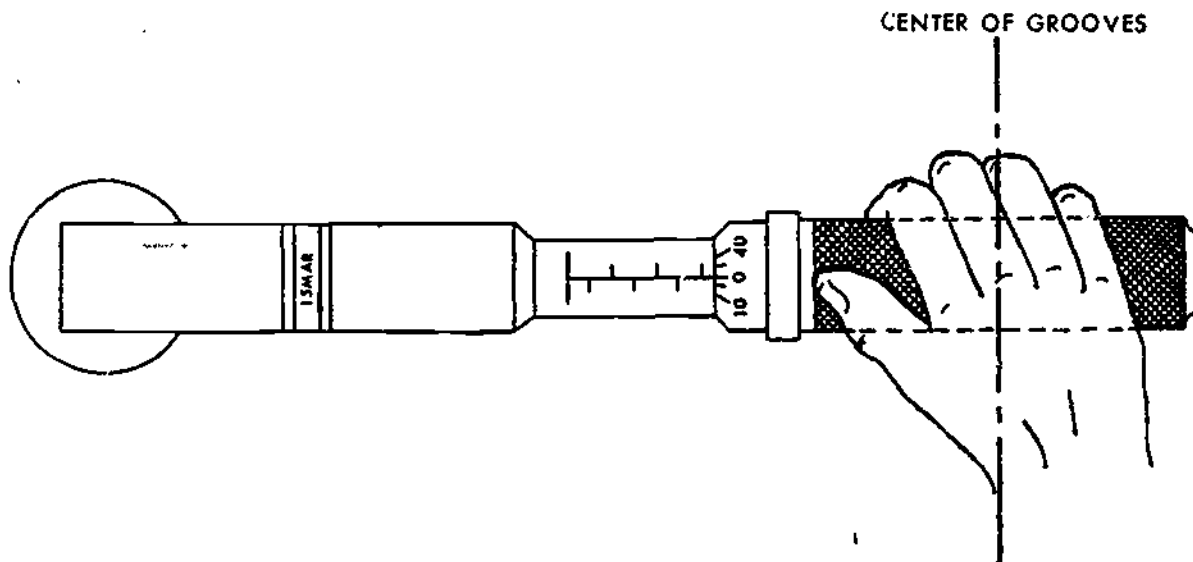

Figure 2.
15. Holding the torque wrench as shown in figure 2 and using a steady, smooth pull, pull the handle toward you until you reach the torque setting. When you reach the correct torque, the handle will click. This is known as "breakaway." (It feels like the wrench has slipped.) **DO NOT PULL BEYOND THIS POINT.** The click indicates the bolt has been torqued to 200 inch-pounds.